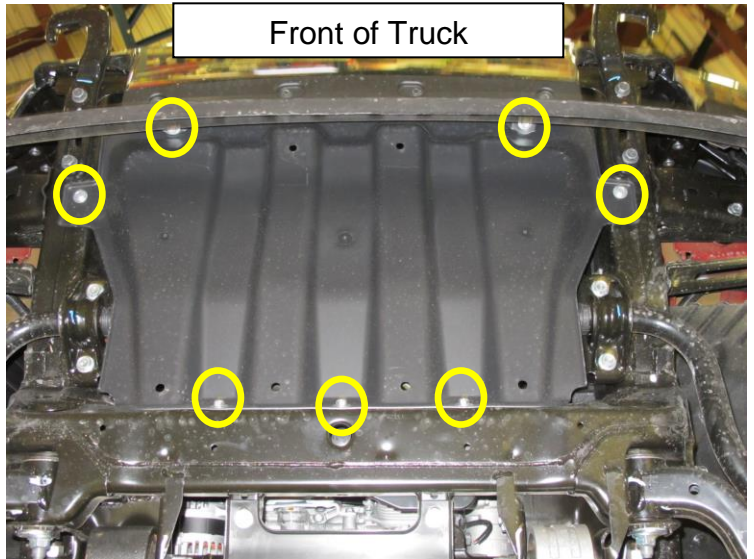

Figure 3
4. Remove the front under cover (Figure 3).
- Standard: Remove the (7) front under cover bolts.
- Pro-4X: loosen the (3) bolts and remove the (4) hex head bolts.